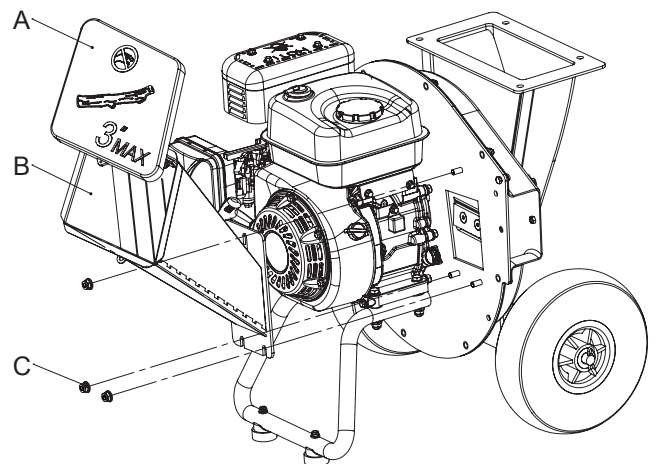

Figure 8
Inspect Chipping Knives (See Figure 8)
2. Remove the nuts securing the side chute to the front of the chipper. Remove the side chute to access the knives. SEE FIGURE 8